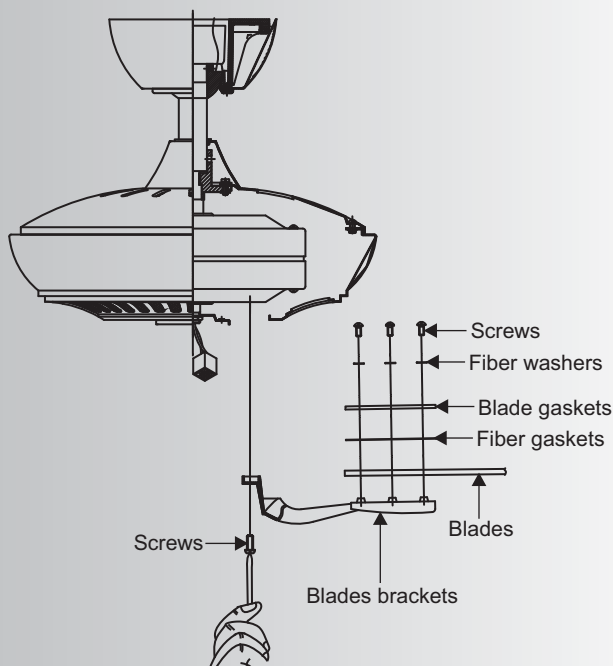

Fig. 14
Step 1. Attach blades to blade arm using the screws with rubber washers, blade gaskets and fiber gaskets provided. (Fig. 14)
Step 2. Attach each blade assembly to the motor using the "Pre-Installed" mounting screws in the blade bracket. (Fig 14)